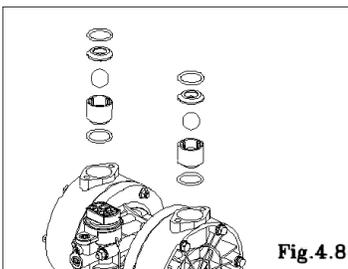

Fig.4.8
- Remove the O ring, valve seat, ball and valve stopper. [Fig.4.8]